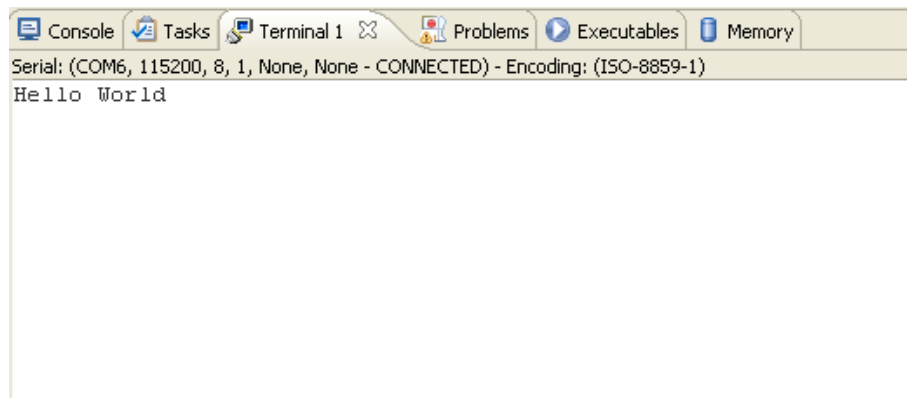

Figure 50: Terminal Output
3. You should see “Hello World” in the terminal if everything worked correctly (FIGURE 50).